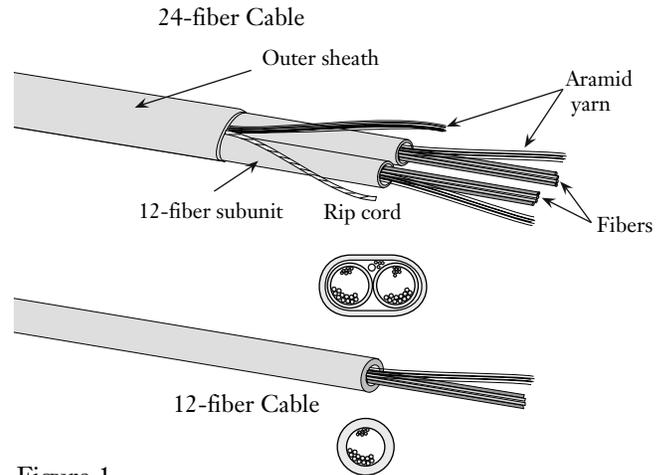

Figure 1
**1.3** MIC 250 cable incorporates color-coded 250  $\mu\text{m}$  optical fibers into a flexible cable design without a preferential bending axis. The optical fibers are segregated into sub-units of 12 (Figure 1). The outer cable jacket and sub-unit jacket are easily accessible using standard tools and maintenance